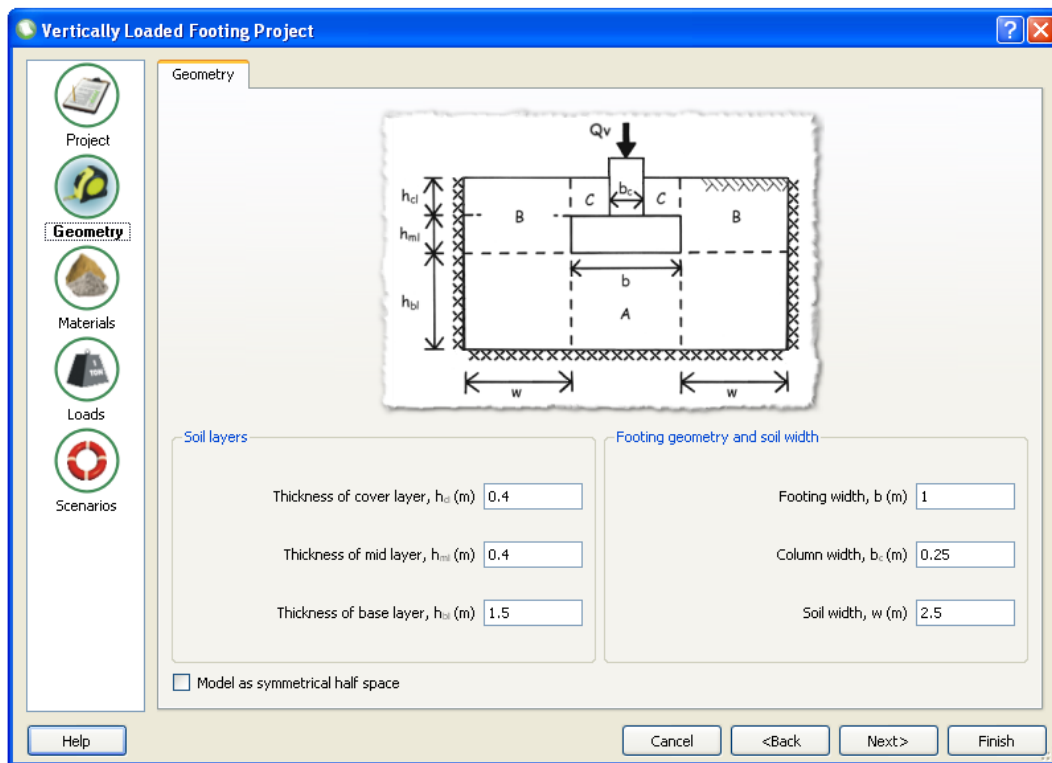

Figure 2: Gravity wall wizard - geometry section
2. In the **Geometry** tab, define the problem geometry using the parameters shown in Figure 2. Click **Next>**.